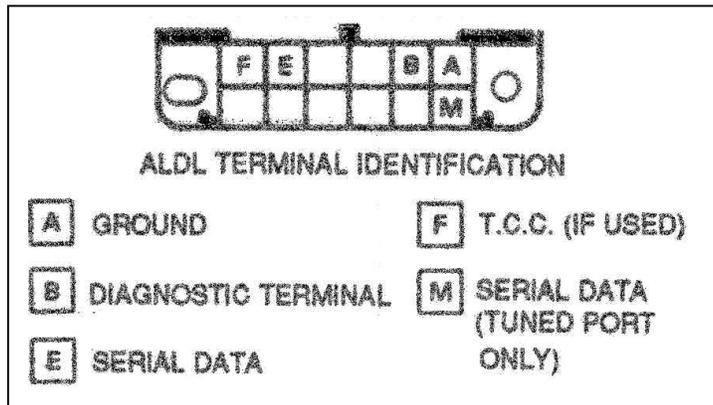

FIGURE 6.1 Assembly Line Diagnostic Link (ALDL) Connector
The wires in this group consist of the assembly line diagnostic link (ALDL) connector (see **FIGURE 6.1**), the check engine light (pre-mounted into a mounting bracket) and four (4) other wires.
7.2.1 In order to retrieve the trouble codes stored in the computer, locate the Assembly Diagnostic Link (ALDL) connector (installed and connected in **Paragraph 6.2.1**). Turn the ignition on, **BUT DO NOT START THE ENGINE**. Connect a jumper from ALDL terminal "A" to terminal "B" (see **Figure 6.1**) and observe the "check engine" light.